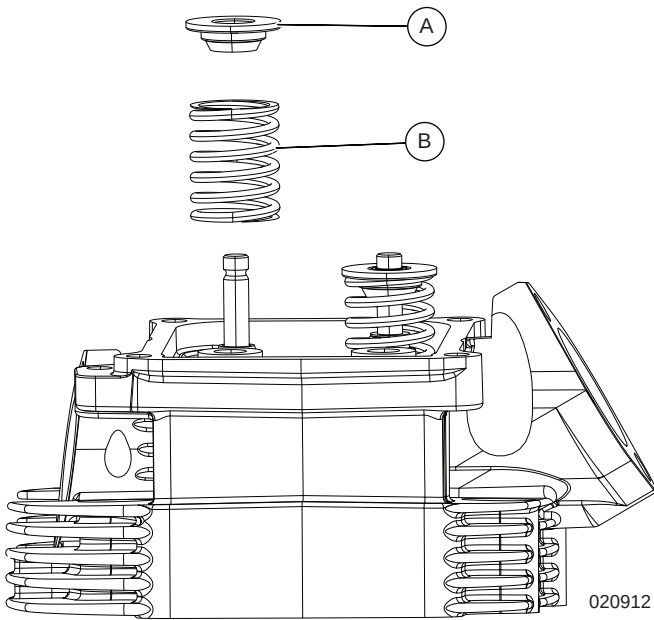

Figure 8-5. Install Valve Spring Assembly onto Valve
3. See Figure 8-5. Install valve spring (B) and spring retainer (A) onto cylinder head assembly.